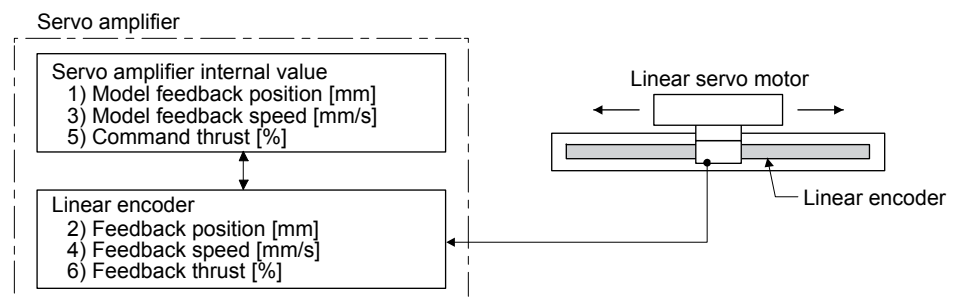

Figure 14.1 Outline of linear servo control error detection function
When you compare the model feedback position (1)) and the feedback position (2)) in figure 14.1, if the deviation is more than the value of [Pr. PL05 Position deviation error detection level] (1 mm to 1000 mm), [AL. 42.1 Servo control error by position deviation] will occur and the linear servo motor will stop. The initial value of this detection level is 50 mm. Replace the set value as required.
When you compare the model feedback speed (3)) and the feedback speed (4)) in figure 14.1, if the deviation is more than the value of [Pr. PL06 Speed deviation error detection level] (1 mm/s to 5000 mm/s), [AL. 42.2 Servo control error by speed deviation] will occur and the linear servo motor will stop. The initial value of this detection level is 1000 mm/s. Replace the set value as required.
When you compare the command thrust (5)) and the feedback thrust (6)) in figure 14.1, if the deviation is more than the value of [Pr. PL07 Torque/thrust deviation error detection level] (1% to 1000%), [AL. 42.3 Servo control error by torque/thrust deviation] will occur and the linear servo motor will stop. The initial value of this detection level is 100%. Replace the set value as required.